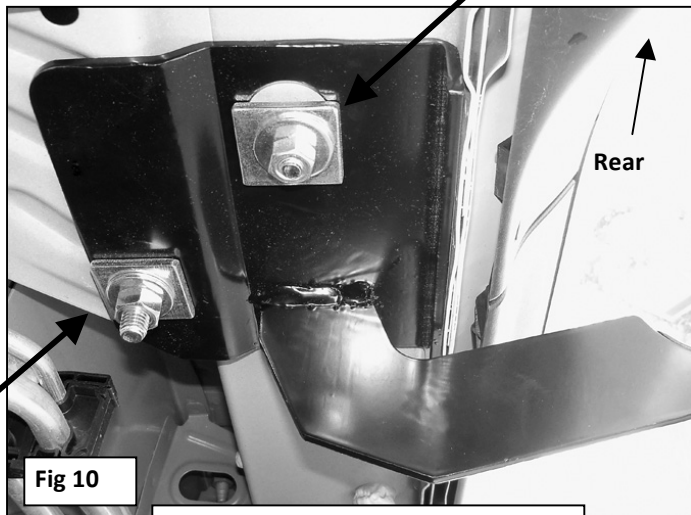

Fig 10
- b. **On 2010-11 Vehicles:** Use (1) 12mm Square Washer, (1) 10mm Flat Washer, (1) 10mm Lock Washer and (1) 10mm Hex Nut to secure the Bracket to the 10mm Bolt Plate in center of the floor panel, **(Figure 10)**. Use (1) 12mm Flat Washer, (1) 12mm Lock Washer and (1) 12mm Hex Nut to secure the Bracket to the Bolt Plate in the round hole. Do not tighten hardware at this time.
(Fig 10) 2010-11 Passenger Side Rear Installation Pictured